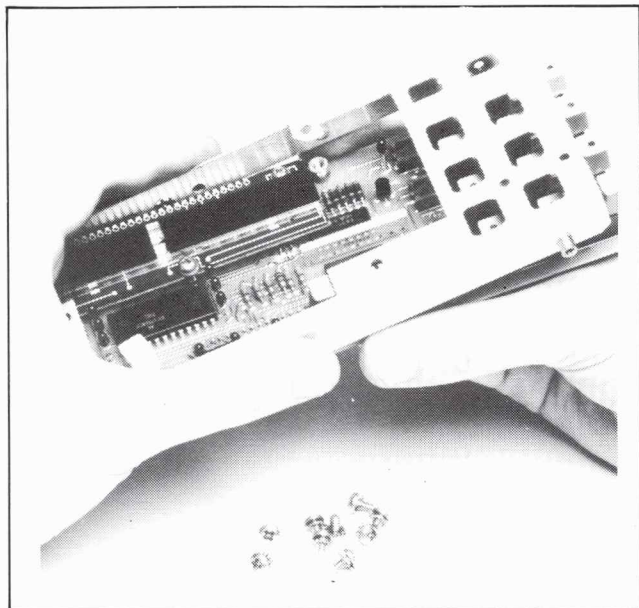

Figure 5-17. Switch-Clamping Subpanel Removal.
b. Remove the 9 screws that fasten switch-clamping subpanel to Display P.C. Board assembly. Remove switch-clamping subpanel (Figure 5-17).
b. Remove the 9 screws that fasten switch-clamping subpanel to Display P.C. Board assembly. Remove switch clamping subpanel (Figure 5-17).